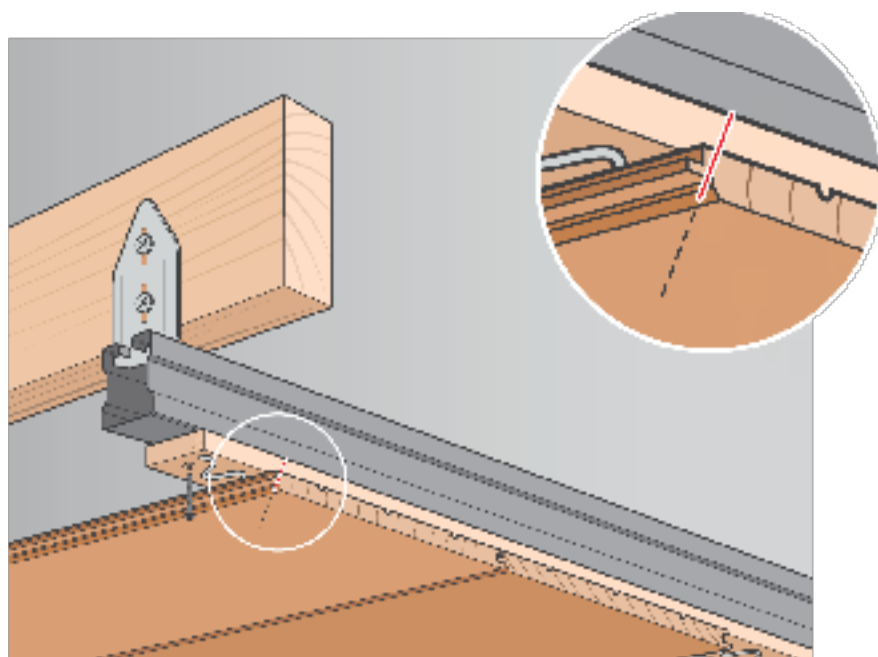

Figure 4: Panelling installation using metal track system / timber batten / secret nail and glue.
- For panelling that cannot use face fixing screws, it is necessary to securely scREW a timber batten to the bottom of a metal track, then proceed as per timber framing projects (see Figure 4).